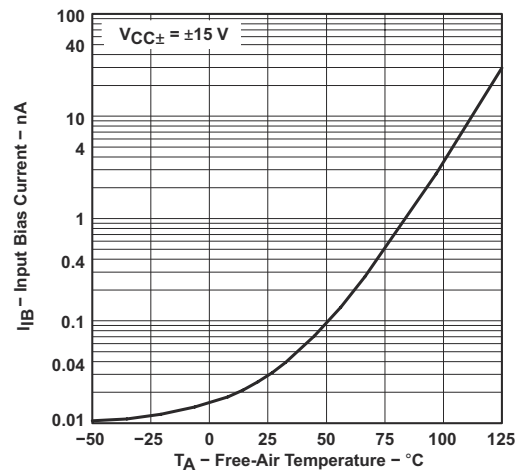

Figure 6-12. Input Bias Current vs Free-Air Temperature
- (1) All characteristics are measured under open-loop conditions with zero common-mode input voltage unless otherwise specified. Full range for T_A is 0°C to 70°C for TL06xC, TL06xAC, and TL06xBC and -40°C to 85°C for TL06xI.
- (2) Input bias currents of an FET-input operational amplifier are normal junction reverse currents, which are temperature sensitive, as shown in Figure 6-12. Pulse techniques are used to maintain the junction temperature as close to the ambient temperature as possible.
- (3) Specified by design and characterization; not production tested.
- (1) All characteristics are measured under open-loop conditions with zero common-mode input voltage, unless otherwise specified. Full range for T_A is 0°C to 70°C for TL06xC, TL06xAC, and TL06xBC and -40°C to 85°C for TL06xI.
- (3) Assured by design and characterization; not production tested.
- (1) This parameter is not production tested.
- (2) All characteristics are measured under open-loop conditions, with zero common-mode voltage, unless otherwise specified.
- (3) Input bias currents of an FET-input operational amplifier are normal junction reverse currents, which are temperature sensitive, as shown in Figure 6-12. Pulse techniques are used to maintain the junction temperature as close to the ambient temperature as possible.
- (4) Specified by design and characterization; not production tested.